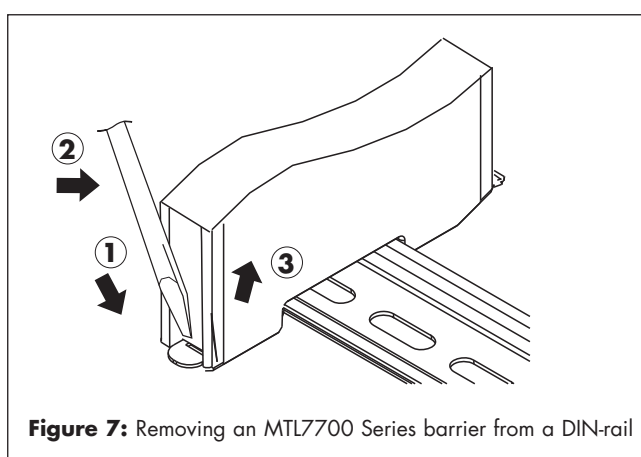

Figure 7: Removing an MTL7700 Series barrier from a DIN-rail
- To remove a barrier (figure 7), use the tip of a screwdriver (with a blade width of 4 to 5mm, minimum shaft length 60mm) to ease the metal clip at the base on the safe-area end outwards until the barrier is freed and can be removed easily by unhooking the hazardous-area end.